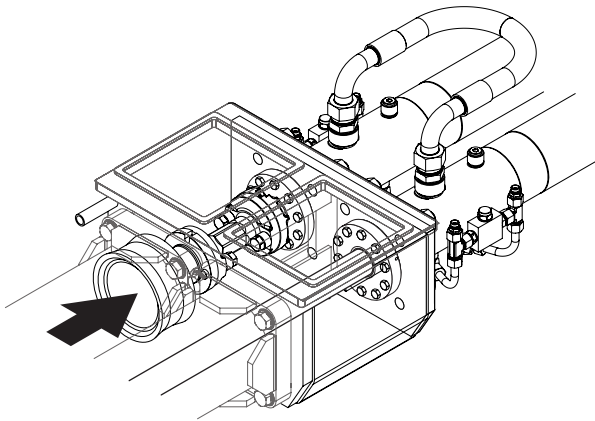

Figure 16
4. Retract the left-hand side differential rod almost all the way into the waterbox (Figure 16). Leave about 1.5 inches of travel, which will allow you to remove the spacer coupling (dogbone). When in position, shut off the engine.